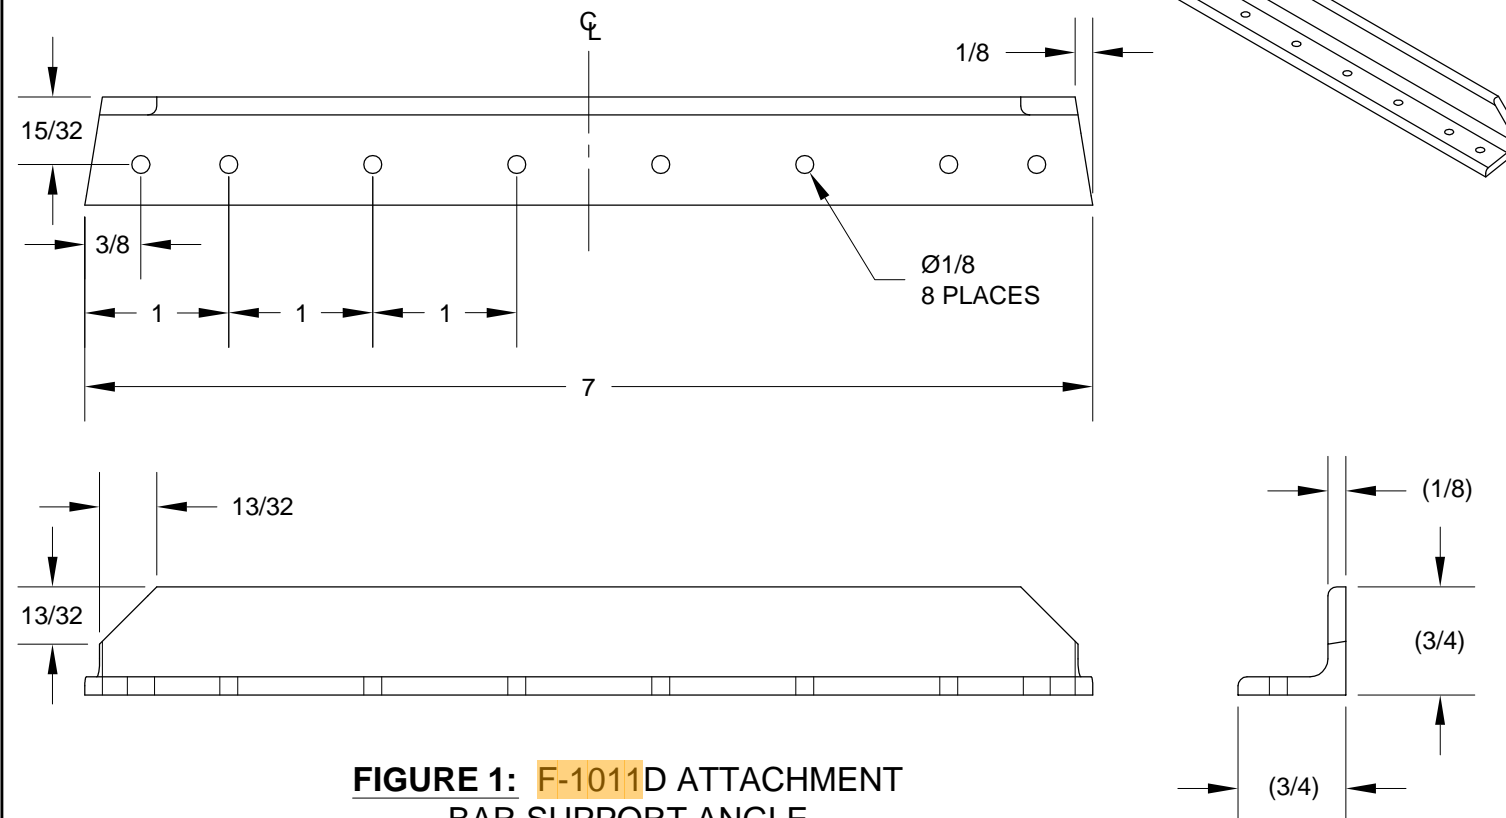

FIGURE 1: F-1011D ATTACHMENT BAR SUPPORT ANGLE
Step 1: Make the F-1011D Horizontal Stabilizer Attachment Bar Support Angle from a length of AA6-125X3/4X3/4 angle using the dimensions in Figure 1. The part is symmetrical about the center-line.